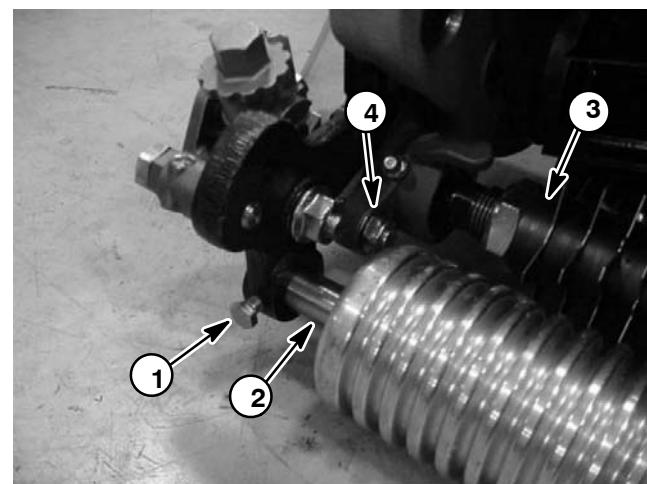

Figure 7
- Loosen cap screws that secure front roller shaft to RH and LH groomer arms (Figs. 7 and 8).
- Remove lock nut (item 27) and spring washer (item 28) that secure RH groomer arm lift rod to RH side plate (Fig. 7).
5. Remove lock nut (item 17), washer (item 16) and carriage bolt (item 23) that secure RH groomer arm assembly to RH side plate. Do not change height-of-cut screw adjustment. Remove RH groomer arm assembly.
11. Install spring washer and lock nut to secure RH groomer arm lift rod to RH groomer side plate (Fig. 7).
12. Center front roller and tighten cap screws to secure roller (Figs. 7 and 8).